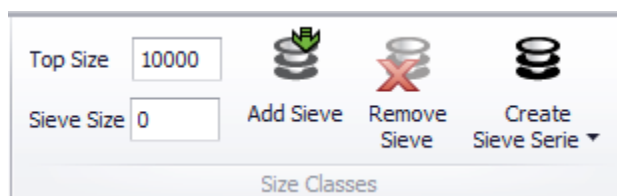

Fig. 26. Tool for creating and editing sieve size classes.
The sieve size classes can be set up and edited as follows (**Fig. 26**):
- ✓ **Sieve Size** is given and accepted by pressing Enter or the **Add Sieve** button (**Fig. 26**); alternatively there is a right mouse button tool for this (**Fig. 27**)